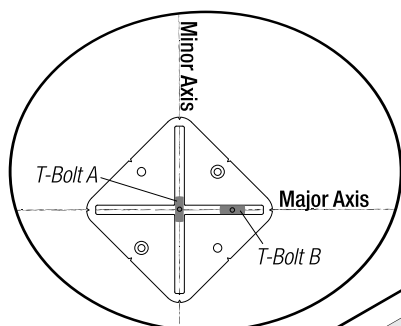
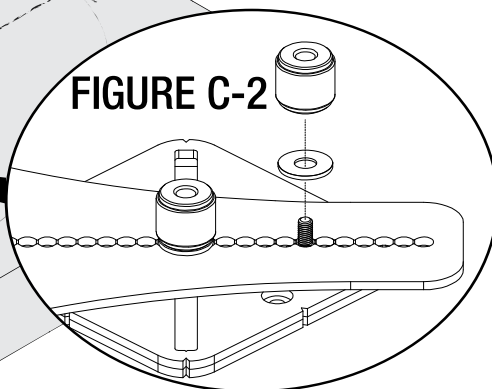

FIGURE C-1
FIGURE C-2
2. Place the ② Slotted Pivot Base on your workpiece. Align the notches in the base to the crosshairs, ensuring the crosshairs are visible in the slots.
4. Position one ③ T-Bolt in each slot, then re-align the ② Slotted Pivot Base to your pre-drilled holes. Ensure the T-Bolts are fully seated in the slots underneath the base. **FIGURE C-1.**
5. Screw the ② Base down to your workpiece using the included Wood Screws.
6. Select the ① Jig Arm holes corresponding to the desired major- and minor-axis radii. **FIGURE B.** The distance between the T-bolt centers must equal the major-axis radius minus the minor-axis radius.
7. Place the *T-Bolt A* at the center of the ellipse with the shoulder perpendicular to the major axis. Position *T-Bolt B* along the major axis. **FIGURE C-1.**
8. With your router installed, place the ① Jig Arm over the base. Guide *T-Bolt A* into the Major Axis hole setting and *T-Bolt B* into the Minor Axis hole setting.
9. Install a washer and a Knurled Knob onto the stem of each the T-Bolt and tighten. **FIGURE C-2.**